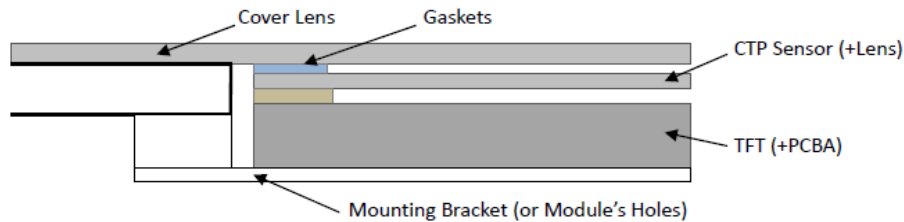

Figure 3
9.3 Additional Cover Lens Mounting (Figure 3)
9.3 覆加盖板（附图3）